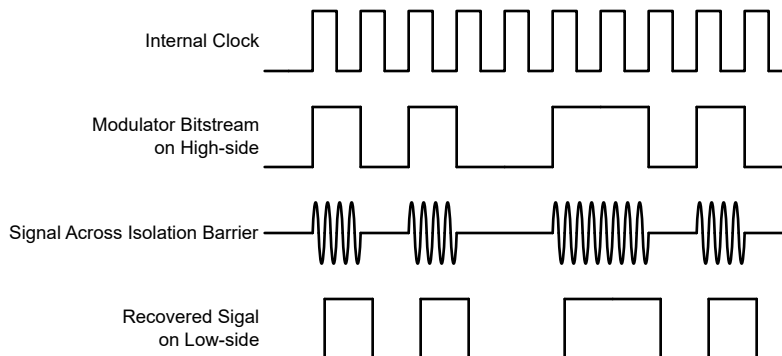

图 7-1. OOK-Based Modulation Scheme
The AMC1351-Q1 uses an on-off keying (OOK) modulation scheme, as shown in 图 7-1, to transmit the modulator output bitstream across the SiO₂-based isolation barrier. The transmit driver (TX) shown in the Functional Block Diagram transmits an internally-generated, high-frequency carrier across the isolation barrier to represent a digital *one* and does not send a signal to represent a digital *zero*. The nominal frequency of the carrier used inside the AMC1351-Q1 is 480 MHz.